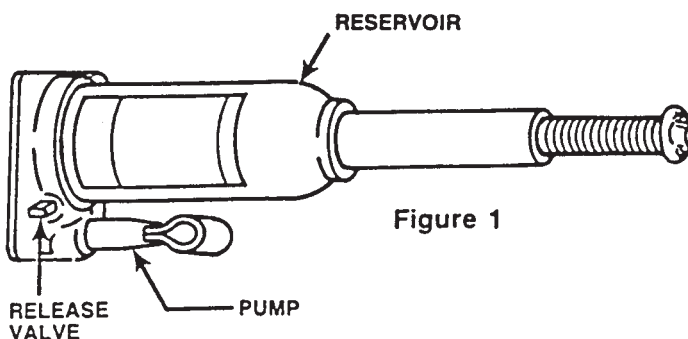

Figure 1
**NOTE:** To use the jack in a horizontal position, the jack **MUST** be placed on its side so the pump is lower than the reservoir. See Figure 1.